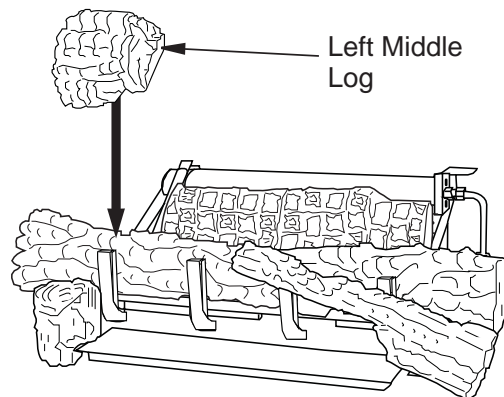

Figure 32 - Installing Left Middle Log
- The left middle log (18" D-066, 24" & 30" D-040) has a groove on the bottom to sit on the chassis and has to sit on the tab on the back of the left front log as shown in **Figure 32**.